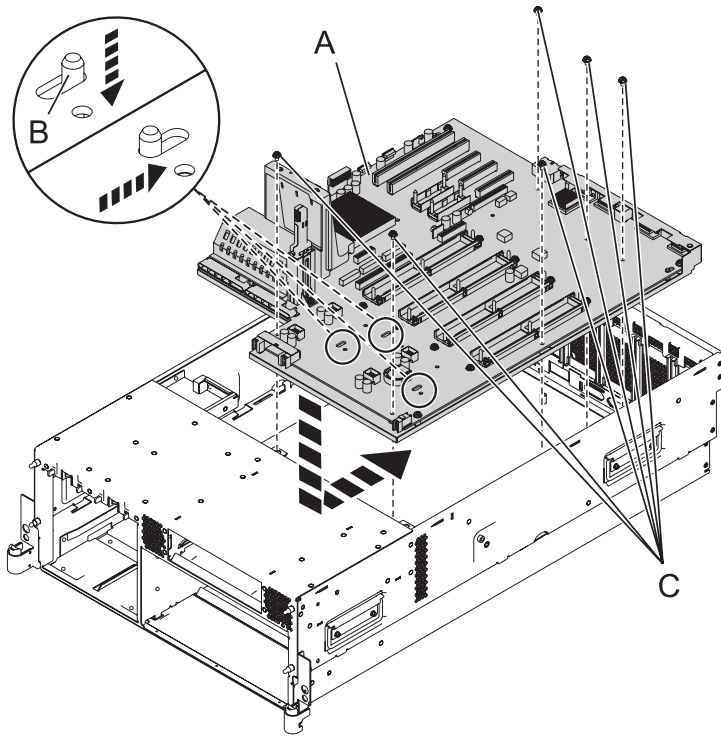

Figure 10. Installing the system backplane
- a. Carefully grasp the replacement system backplane (**A**) along two edges. See Figure 10.